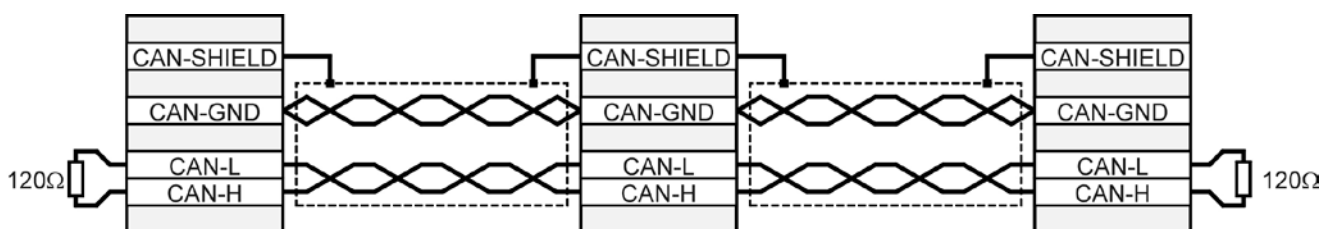

Figure 27: Cabling example for CAN-Bus
- ❖ The individual nodes of a network are always connected in line, so that the CAN cable is looped through from controller to controller (see *Figure 27*)